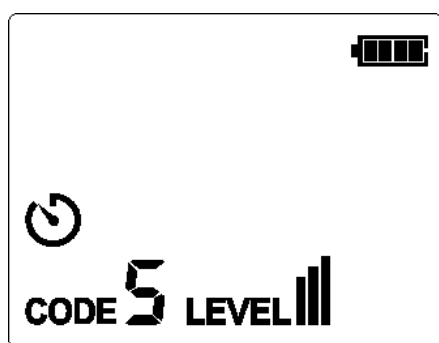

Figure 7.1.2c
3. For most applications, the default transmission strength is III (default code: 5). As shown in Figure 7.1.2c, the level shown on the LCD is III.